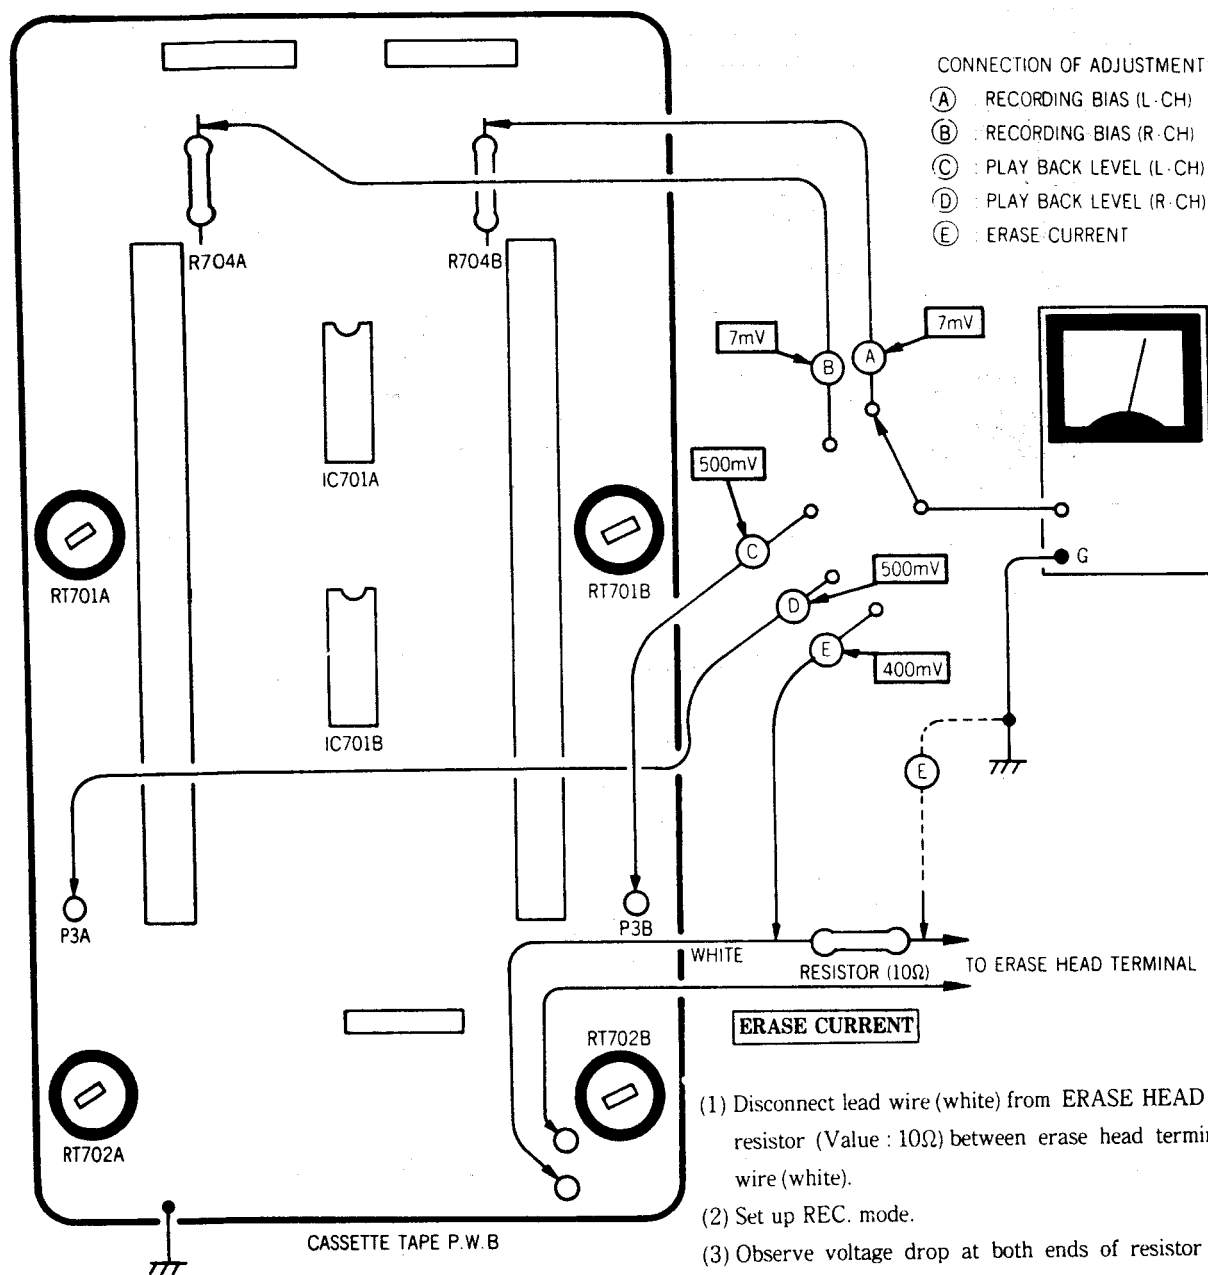

Fig. 3
- (1) Set up RECORDING mode.
- (2) Observe voltage drop at both ends of resistor R704A (right-channel), R704B (left-channel) with a VTVM connected to the resistor R704A, R704B as shown in Fig. 3.
- (3) Adjust RT702A (right-channel), RT702B (left-channel) for 7mV.
- (1) Load instrument with standard tape for playback adjustment.
- (2) Observe output of right and left channel with a VTVM connected to P3A (right-channel) P3B (left-channel) as shown in Fig. 3.
- (3) Adjust RT701A (right channel), RT701B (left channel) for 500mV